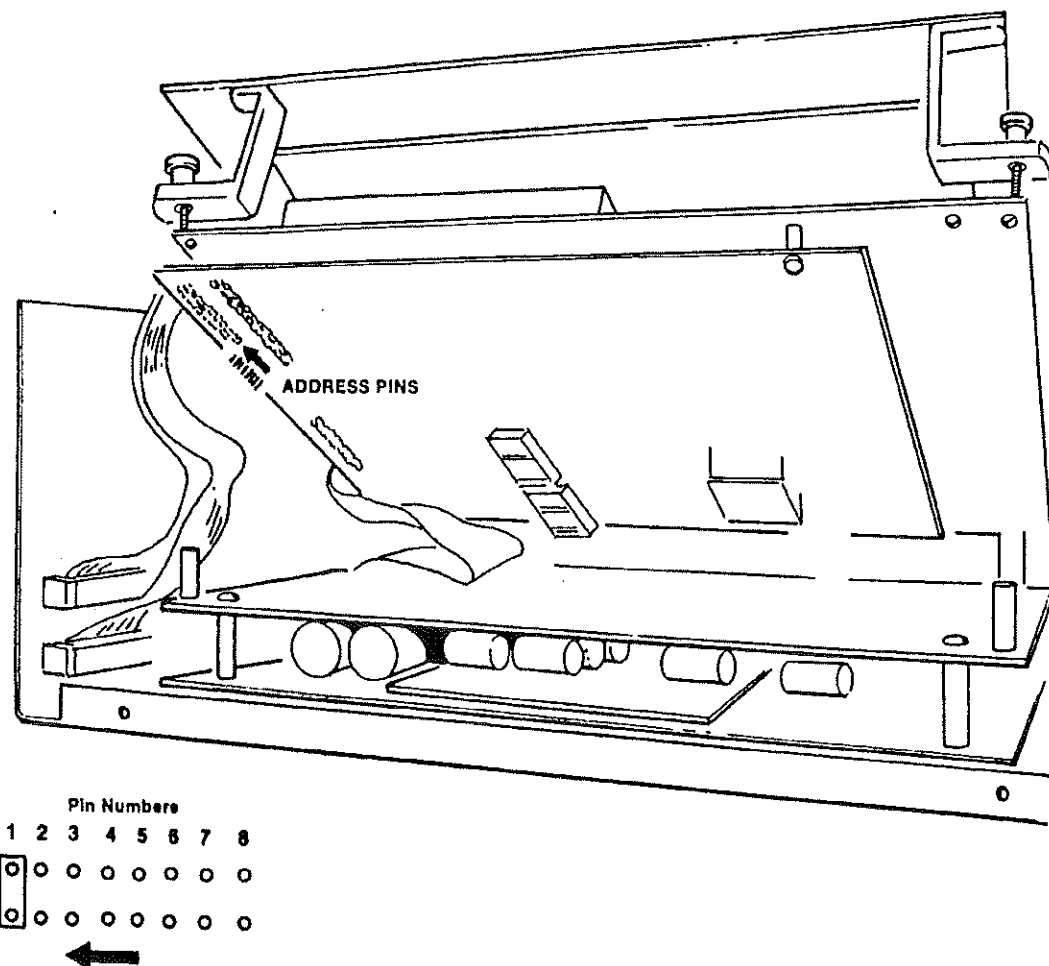

Fig. 3.4. Exposing the Dual-Port Memory Address Pins.
5. Lift the shield under the second printed wiring board. The shield will swing up about 2 inches before stopping. Hold it at this point. See Fig. 3.4.
6. Locate the DPM address selection pins. They are located on the underside of the shield that was raised in step 5. See Fig. 3.4.
7. Move the DPM address jumper to the set of pins which corresponds to the MCB number of the 92X. See Fig. 3.4 for the MCB number assigned to each set of pins.